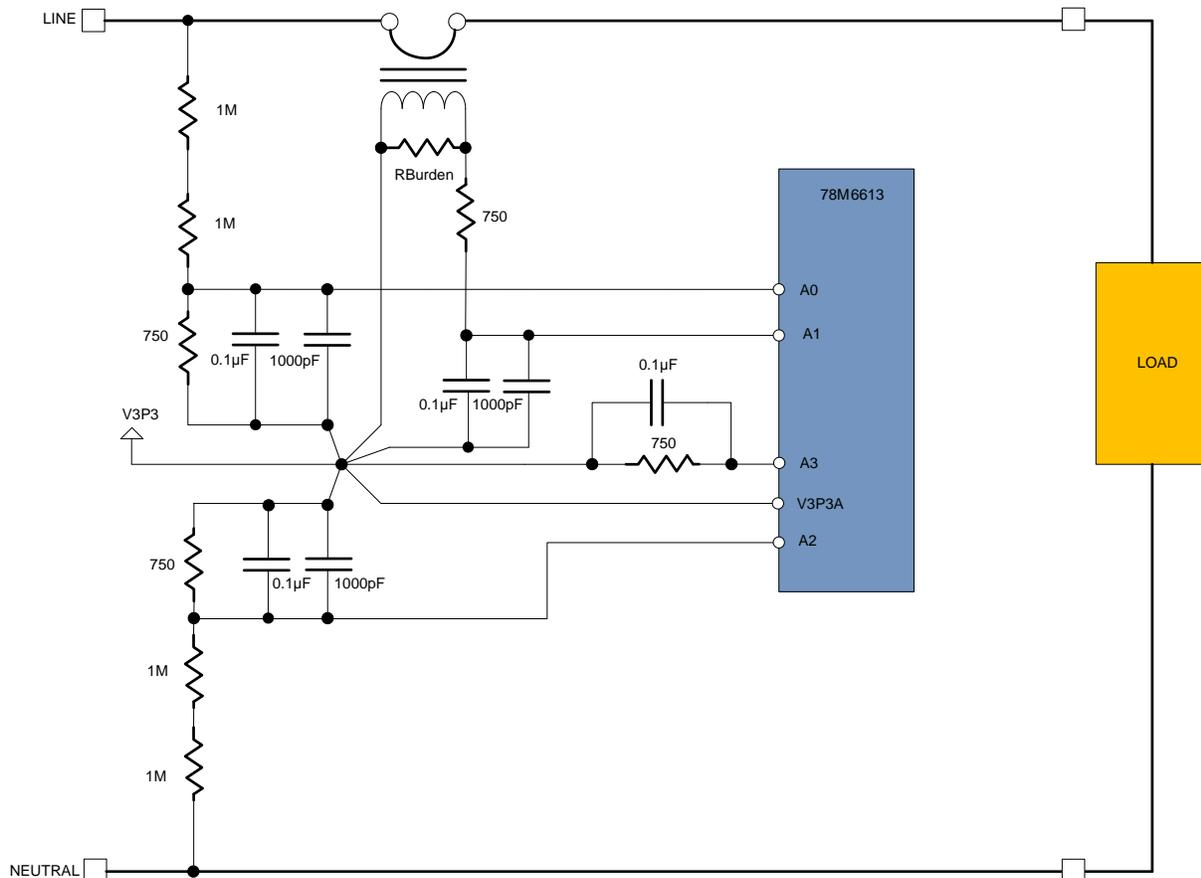

Figure 6: Basic Connection Diagram of a CT-Based System
Figure 6 shows a basic connection diagram of a CT-based system.
The use of a CT allows for the 78M6613's V3P3 to be isolated from the plant NEUTRAL wiring. This topology eliminates the safety issues stated earlier regarding shunt-based current sensing. Figure 6 shows a 2 M Ω isolation from the LINE voltage via the voltage divider network. In this topology, the line voltage is a pseudo-differential measurement of A2-A0.
The pseudo-differential voltage measurement circuit of A2-A0 shown in Figure 6 can be replaced with a voltage transformer (VT). The VT replaces the two 2 M Ω resistor divider networks and requires use of only A0. Use of a CT with a VT provides complete galvanic isolation from the plant wiring. A good quality VT provides accurate linear measurements from 100VAC to 240VAC.